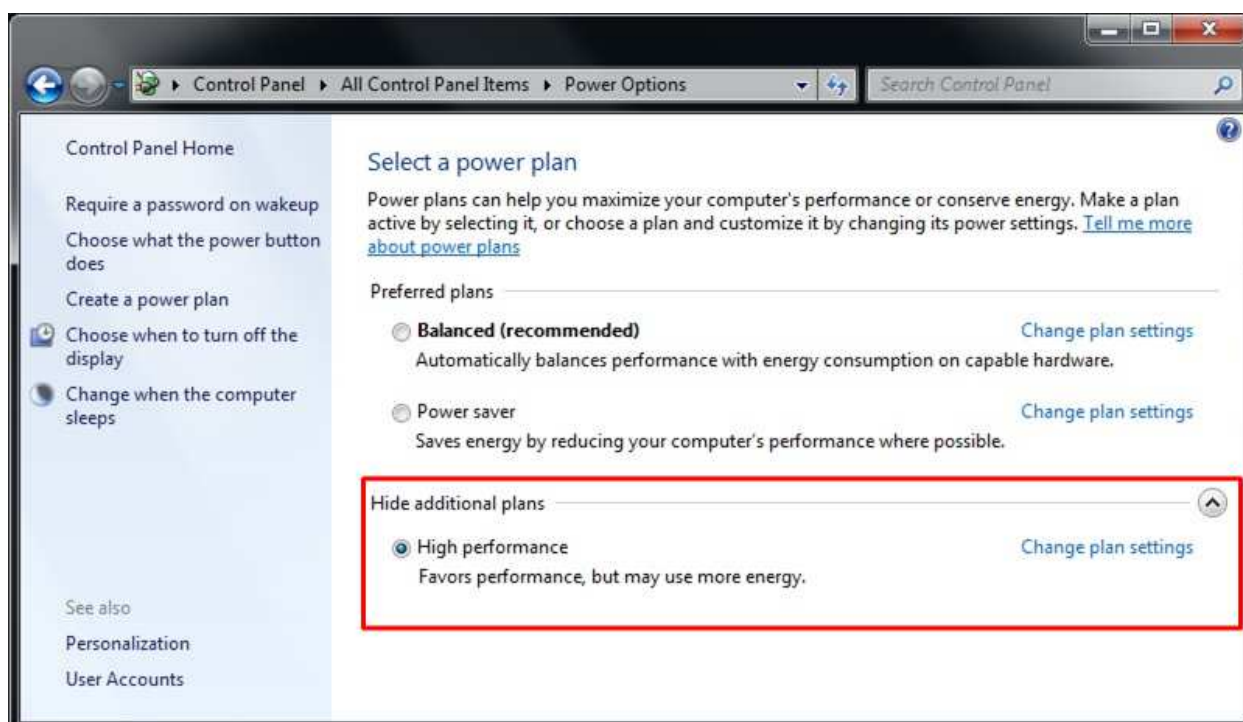

Figure 3-6 High Performance Option
- Change setting to High Performance as shown in Figure 3-6.